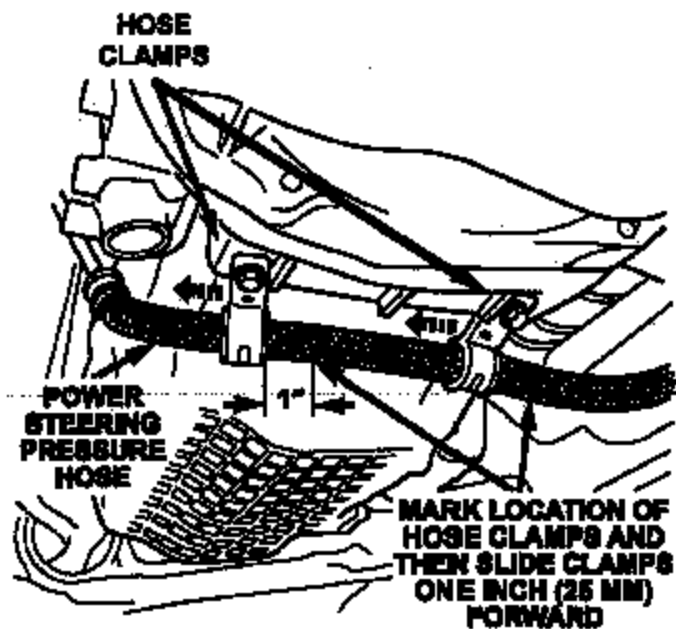
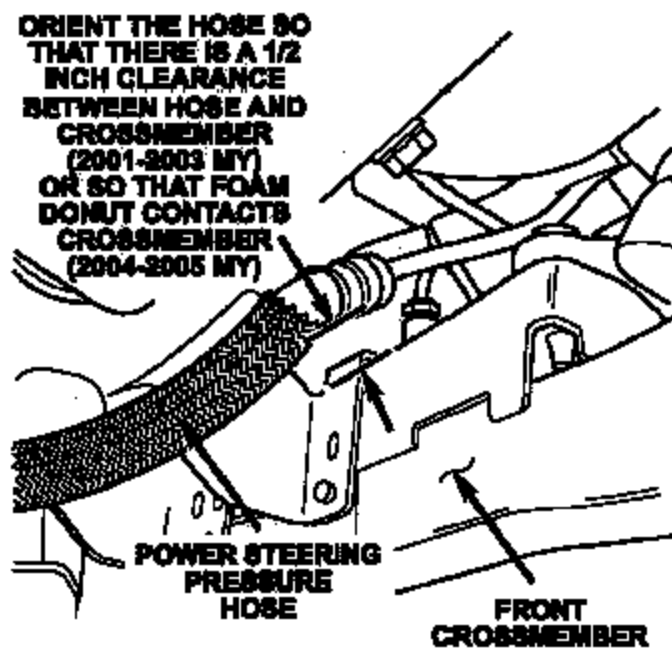

Figure 3
Figure 5
4. Mark the location on the power steering hose of the two (2) clamps that secure the power steering hose to the rear of the engine (Figure 3).
5. Disconnect the two (2) clamps that secure the hose to the rear of the engine (Figure 3).
7. Slide both hose clamps forward one (1) inch each on the hose (Figure 3).
8. Attach the two (2) hose clamps to the engine and tighten to 75 in-lbs (8.5 N-m).
- The hose has  $\frac{1}{2}$ " (12.5 mm) clearance to the front crossmember (2001-2003 model years) (Figure 5).